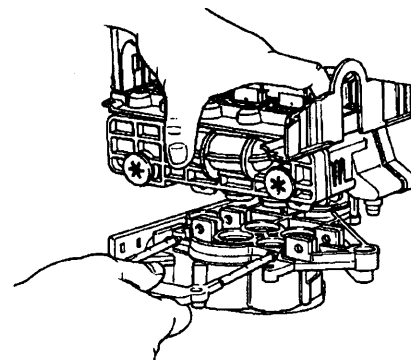

Figure 20
10. Apply downward hand pressure on the valve and pull the locking bar out, Figure 20.